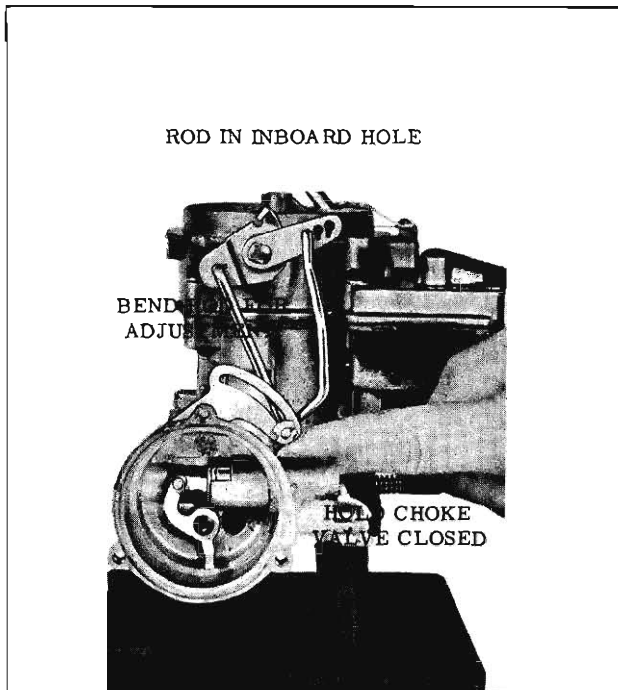

Fig. 4-47 Intermediate Choke Adjustment
1. Adjust the intermediate choke rod as outlined in Fig. 4-47.